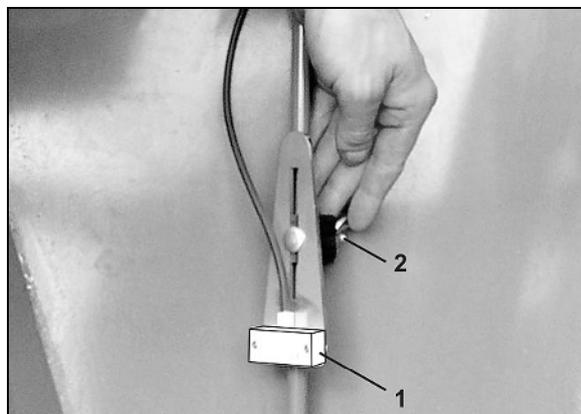

Fig. 91
3. Undo the butterfly nut (Fig. 91/2).
4. Adjust the height of the level sensor (Fig. 91/1) to the required seed volume.
5. Tighten the butterfly nut (Fig. 91/2).
Only assemble the level sensor as shown in figure (Fig. 91).